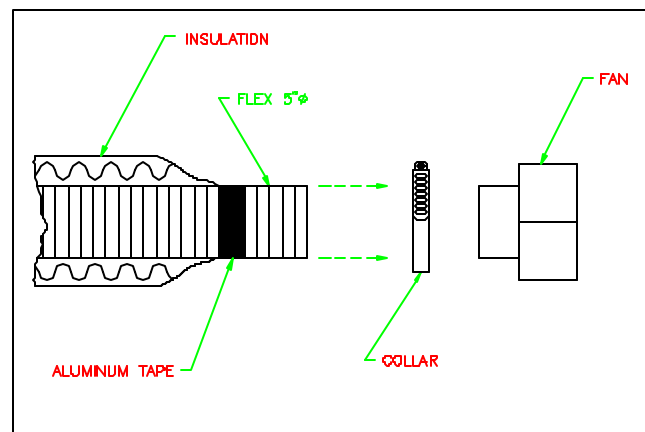

Figure 10
4. Attach the flexible pipe to the fan, using the collars (figure 10).